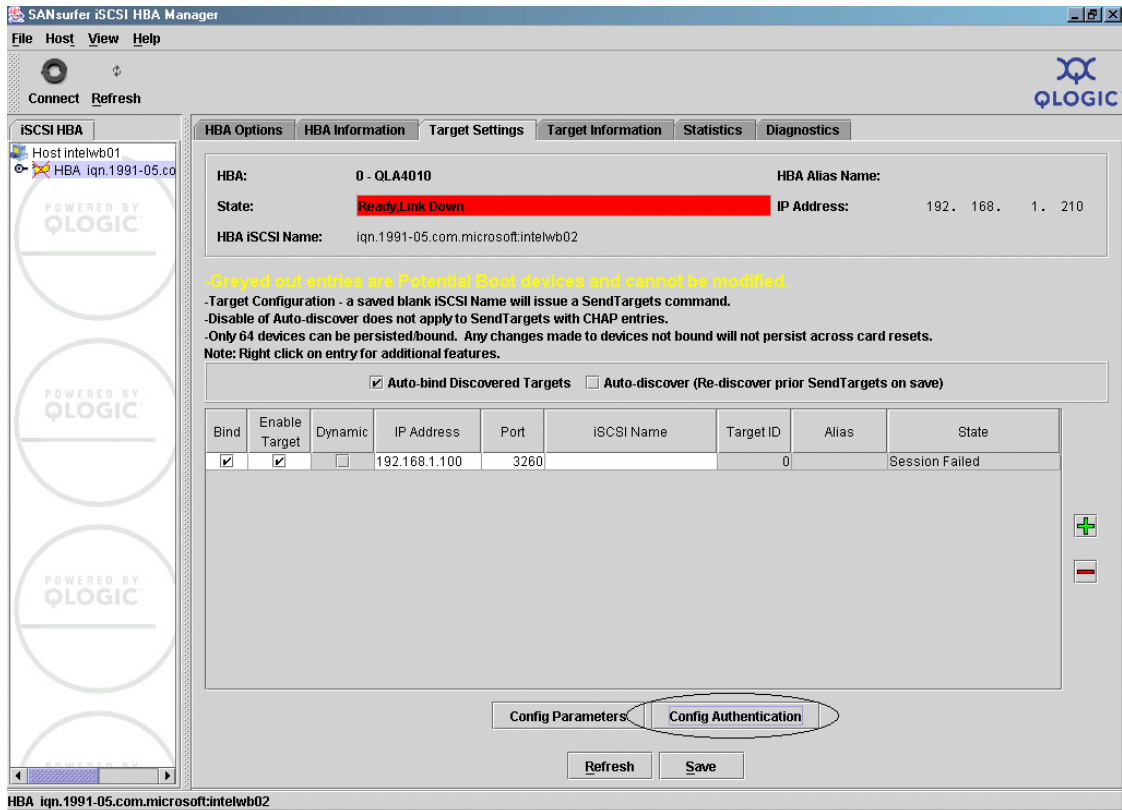

Figure 59 SANsurfer iSCSI HBA Manager, Target Settings tab
- ◆ To configure your iSCSI targets, click the **Target Settings** tab from the **SANsurfer iSCSI HBA Manager** dialog, as shown in Figure 59.
- You can add as many targets as needed. If you need to enter CHAP security for any target, click **Config Authentication** at the bottom of the dialog, as shown in Figure 59 on page 84, to get the **Authentication Configuration** dialog, shown in Figure 61.
- ◆ To save all target settings, click **Save** at the bottom of the **SANsurfer iSCSI HBA Manager, Target Settings** tab, as shown in Figure 59 on page 84. You will be prompted for the SANsurfer security password. The default password is **config**, but it can be changed.